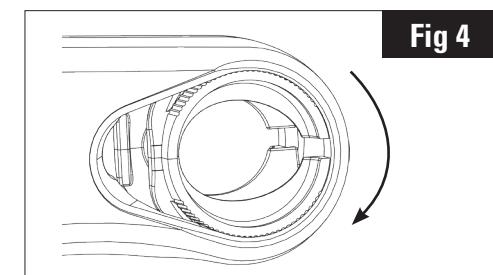

Fig 4
2. Turn the shells by a quarter turn so that the thrusts are located at the top of the stem body. (Fig 4)